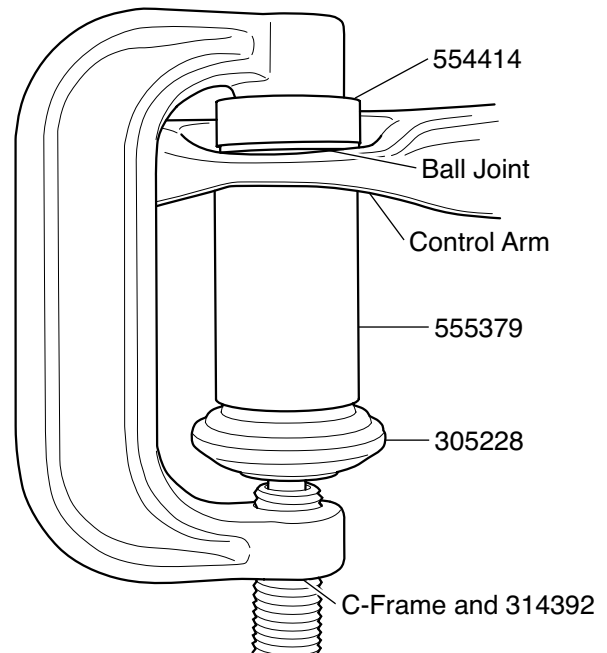

Figure 2. Ball Joint Installation
3. Position 554414 (or 204508A) on the ball joint as shown in Figure 2.